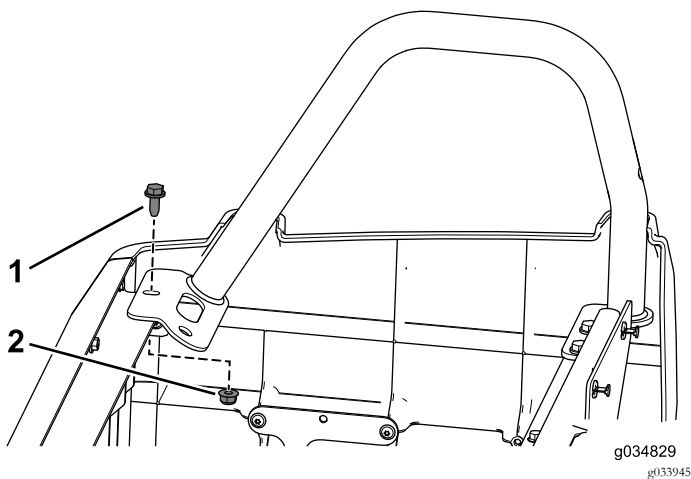

Figure 50
1. Use the flange bolt (3/16 x 3/4 inch) and flange nut that you removed earlier to secure the right, rear-hip restraint to the rear seat base (Figure 50).